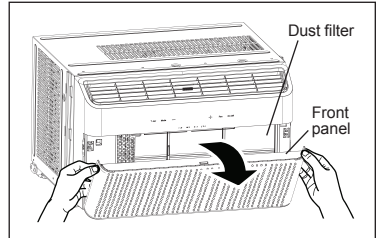

FIGURE 21
1. To open the front panel, pull on the notches on both sides of the panel, as shown in Figure 21.